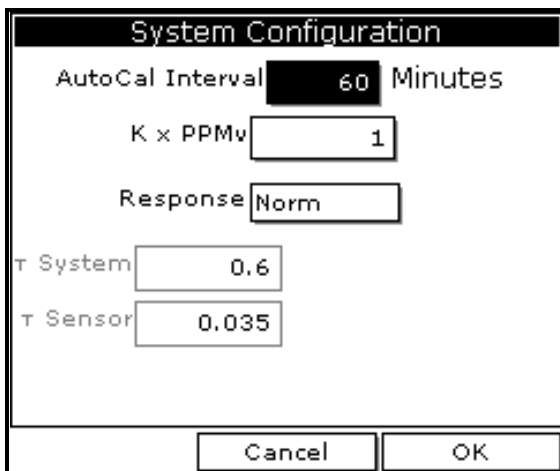

Figure 21: System Configuration Window
3. Use the arrow key to scroll to System and press [ENTER]. A screen similar to Figure 21 appears.